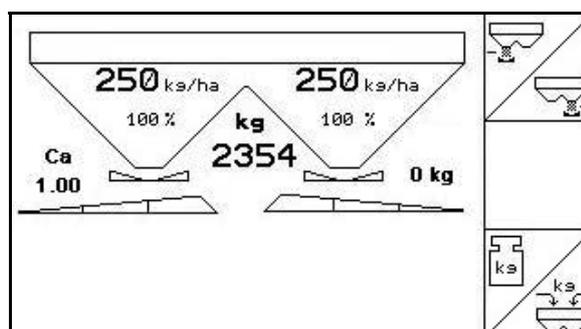

Fig. 37
-  **Start online calibration in the work menu (Fig. 37) when you start spreading.**